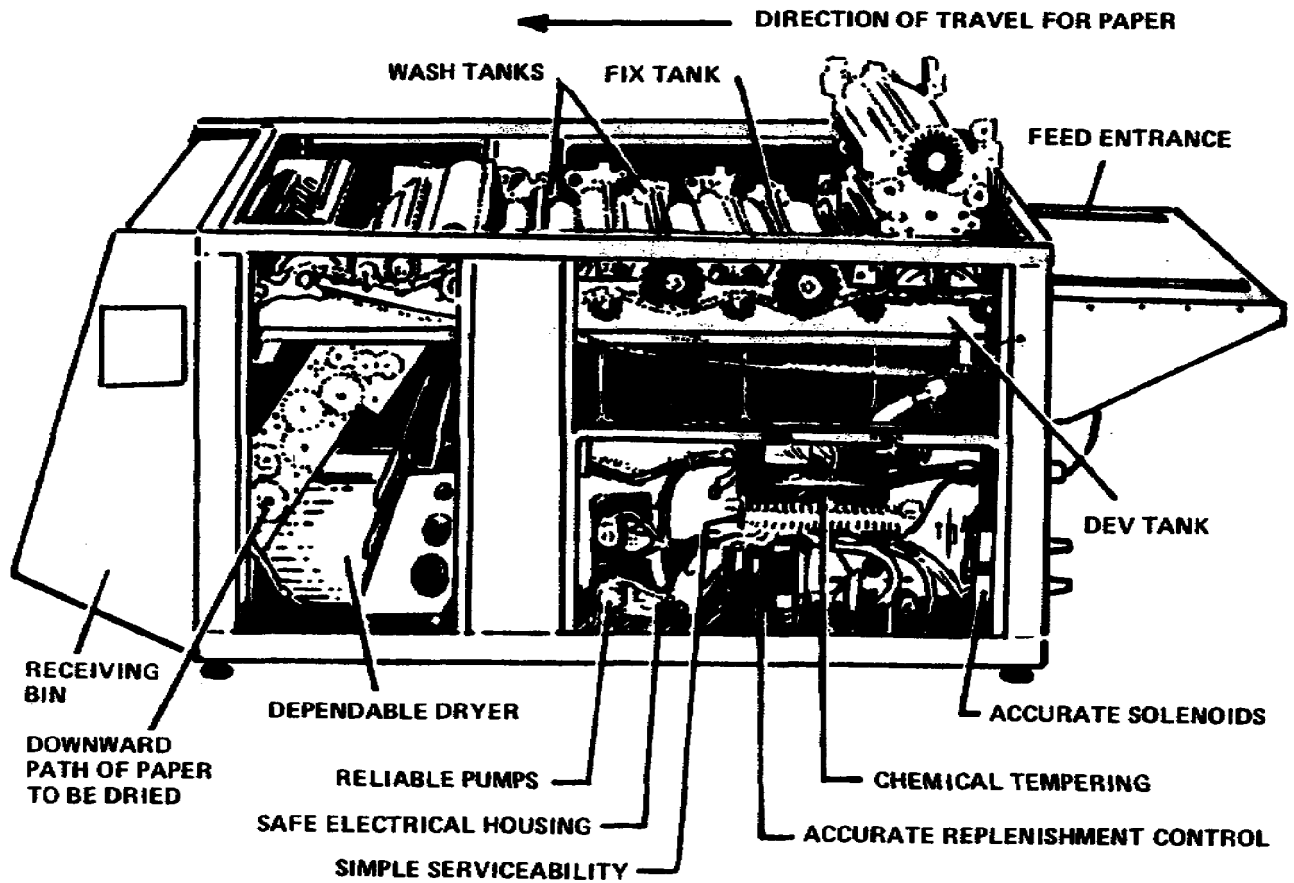
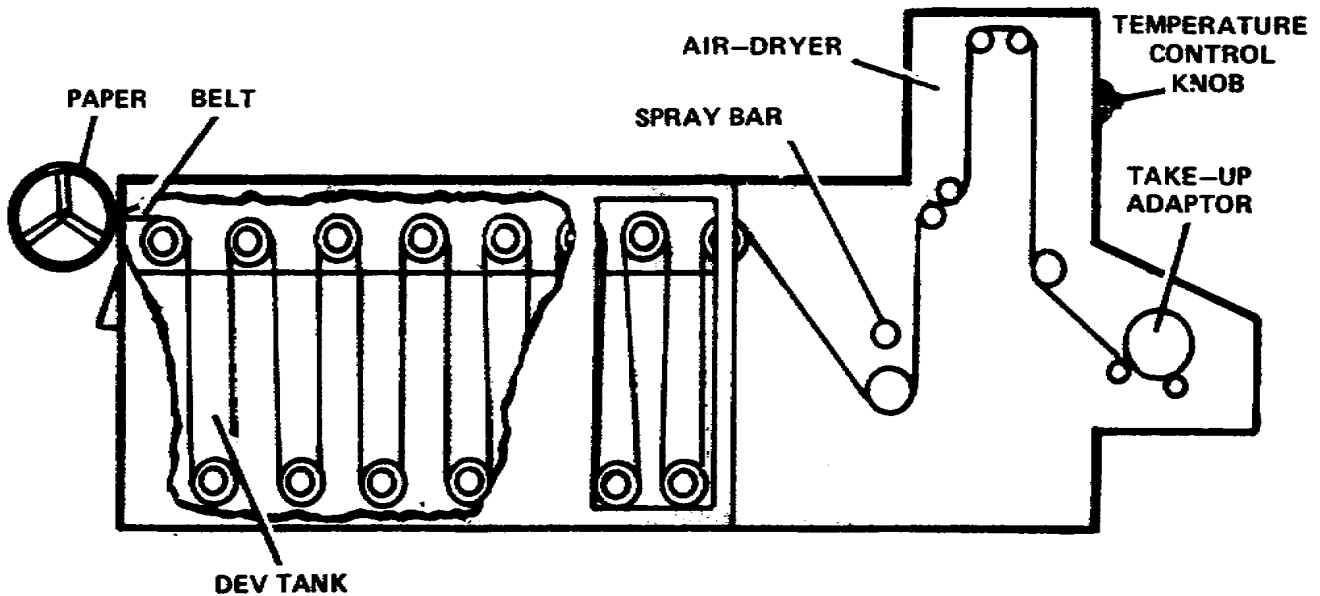

Figure 1-4. Continuous print processor
Figure 1-5. Belt-drive transport system
- a. Paper is fed into the feed entrance (fig 1-4) or attached to a clip which is fastened to a belt (fig 1-5).
- d. The dryer section receives the paper and transports it upward between a set of rollers to be air-dried (fig 1-5).